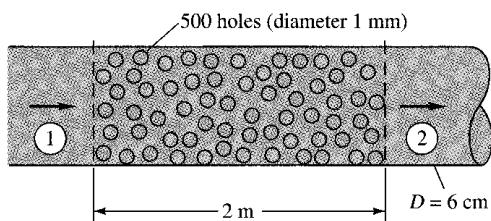

Fig. P6.147
**6.147** Air flows through a 6-cm-diameter smooth pipe which has a 2 m-long perforated section containing 500 holes (diameter 1 mm), as in Fig. P6.147. Pressure outside the pipe is sea-level standard air. If  $p_1 = 105 \text{ kPa}$  and  $Q_1 = 110 \text{ m}^3/\text{h}$ , estimate  $p_2$  and  $Q_2$ , assuming that the holes are approximated by thin-plate orifices. Hint: A momentum control volume may be very useful.